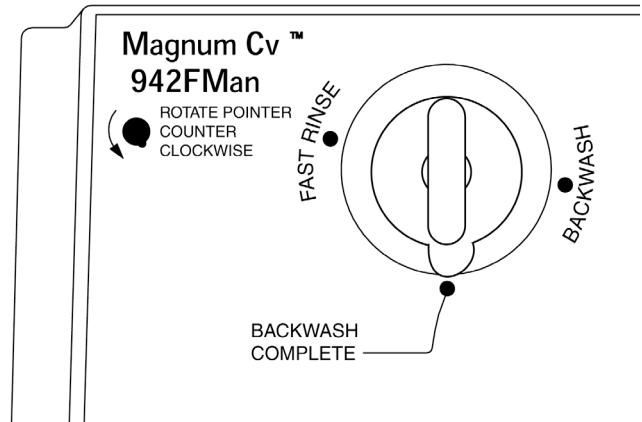

Figure 5.8
3. After the fast rinse is complete, return the filter to service by rotating the indicator knob **COUNTERCLOCKWISE** to the **Backwash Complete** position (Figure 5.8).